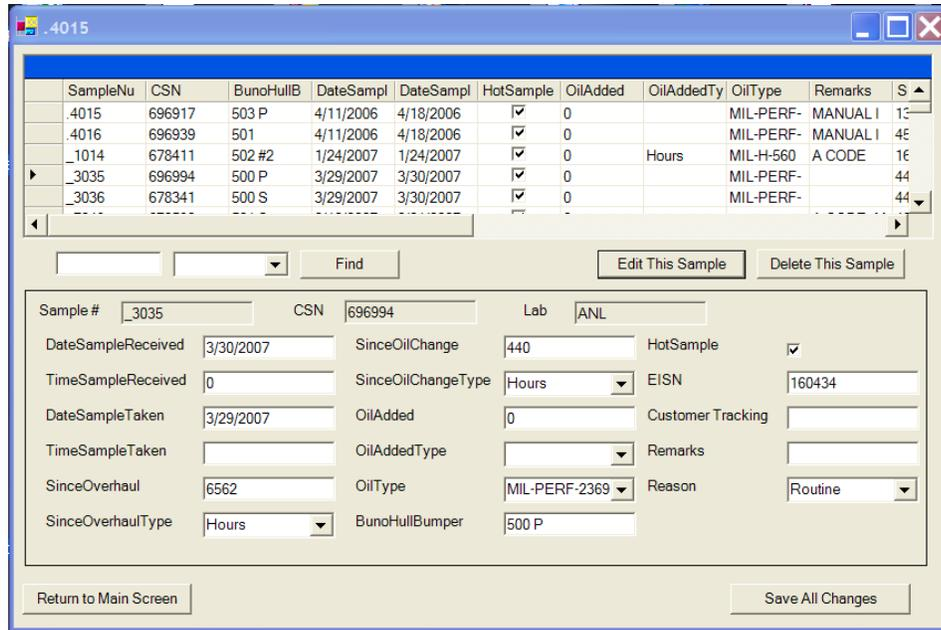

Figure 93. Sample Options
- (3). Highlight the sample and press edit this sample and the following screen will appear (Figure 93).